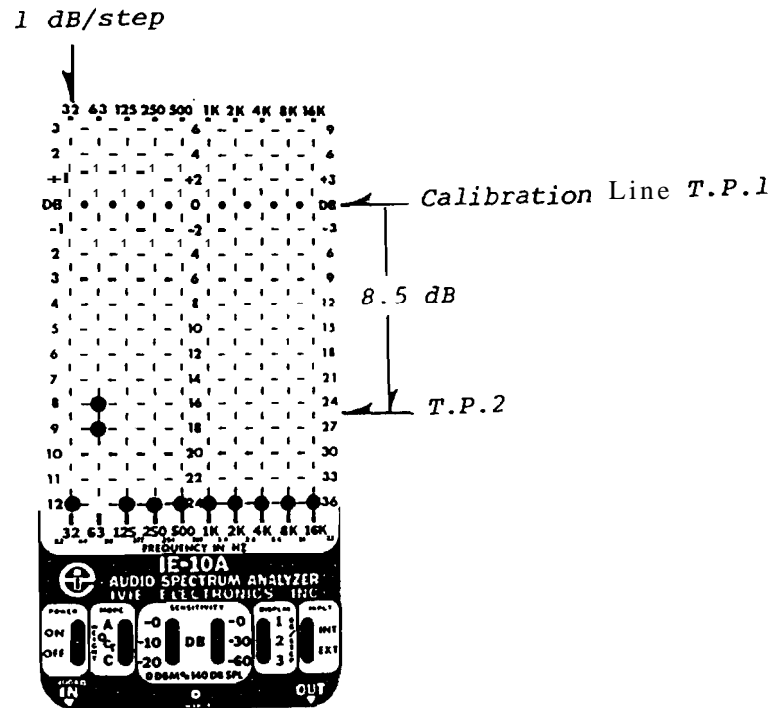

Figure 37
- Next move the analyzer test probe to T.P.2 and note the decrease in the displayed signal level due to the insertion loss in the test device (see Fig. 37).